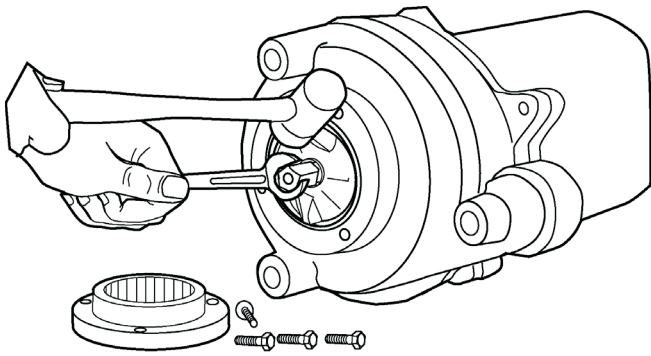

Fig. 4
4. Use large screwdriver in slot in end of shaft and bump on cutter vane with plastic hammer. Bump in counterclockwise direction as thread is right hand. It may take several bumps to loosen impeller. See Fig. 4